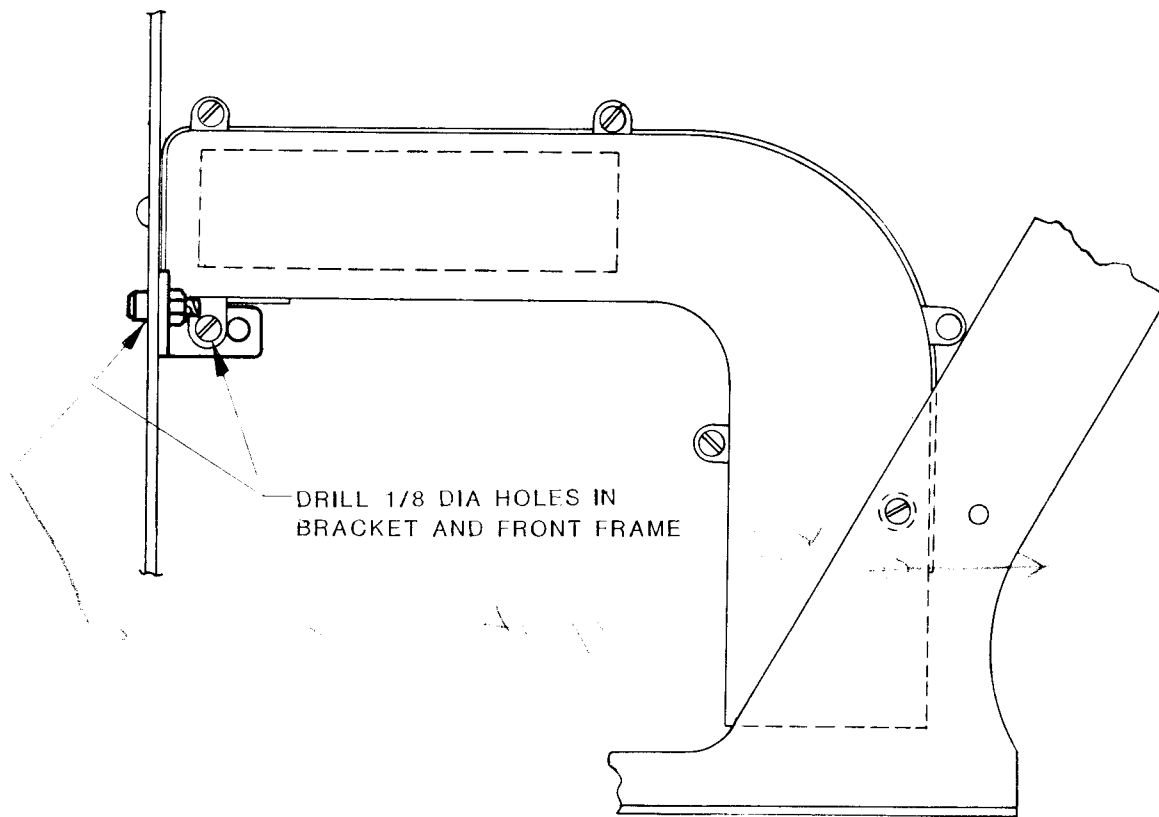

Figure 5
STEP 5 COOLING SYSTEM - see Figure 5